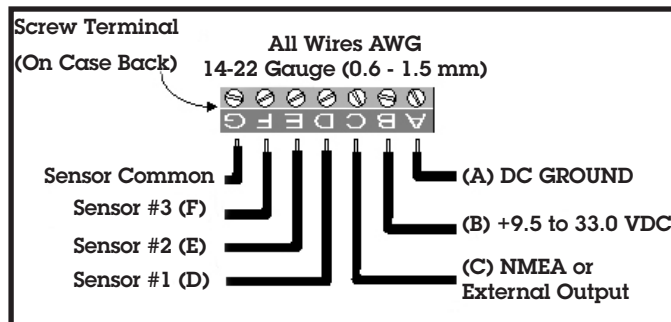

Figure 2
- Bring the sensor wires, ground, and power lines out of the mounting hole and use a small flat screwdriver provided to make the connections to the screw terminal on the instrument case back as shown in figures 2 and 3.
Carefully check all your wiring against those shown in figure 2. If everything is wired correctly you can mount the TG-3 in the instrument hole. Be sure the bulkhead gasket is in place and use only finger tension to tighten the bracket hold-down nuts